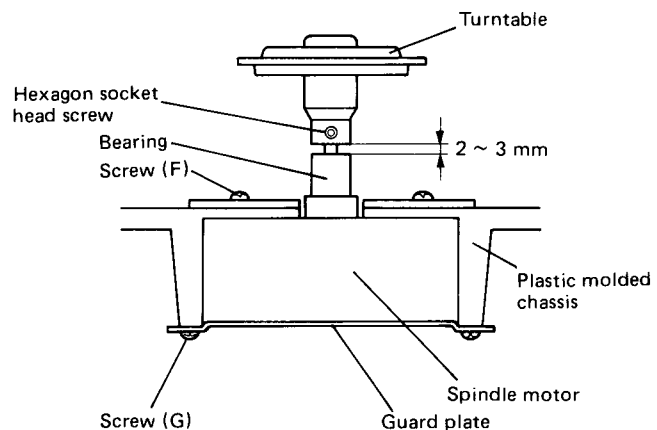

Fig. 19
2. After full insertion of the turntable to the spindle motor shaft, keep the turntable 2-3 mm away from the bearing of the spindle motor shaft and tighten the hexagon socket head screw temporarily. (Fig. 19)